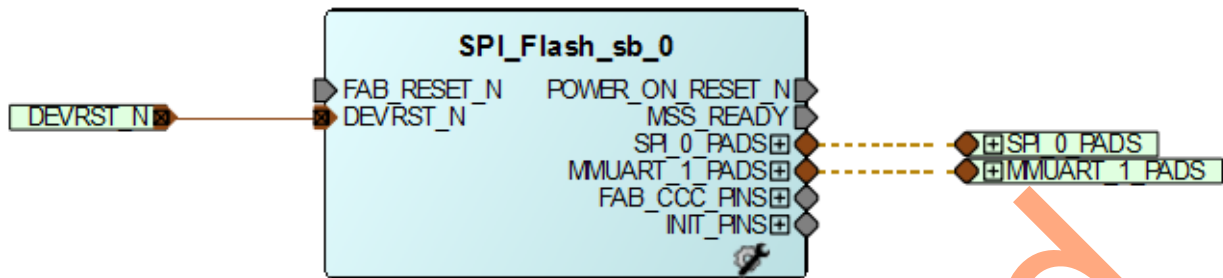

Figure 11 • SPI\_Flash SmartDesign
20. Select **File > Save** to save **SPI\_Flash**. Select the **SPI\_Flash** tab on the Smart Design canvas, as shown in Figure 11.